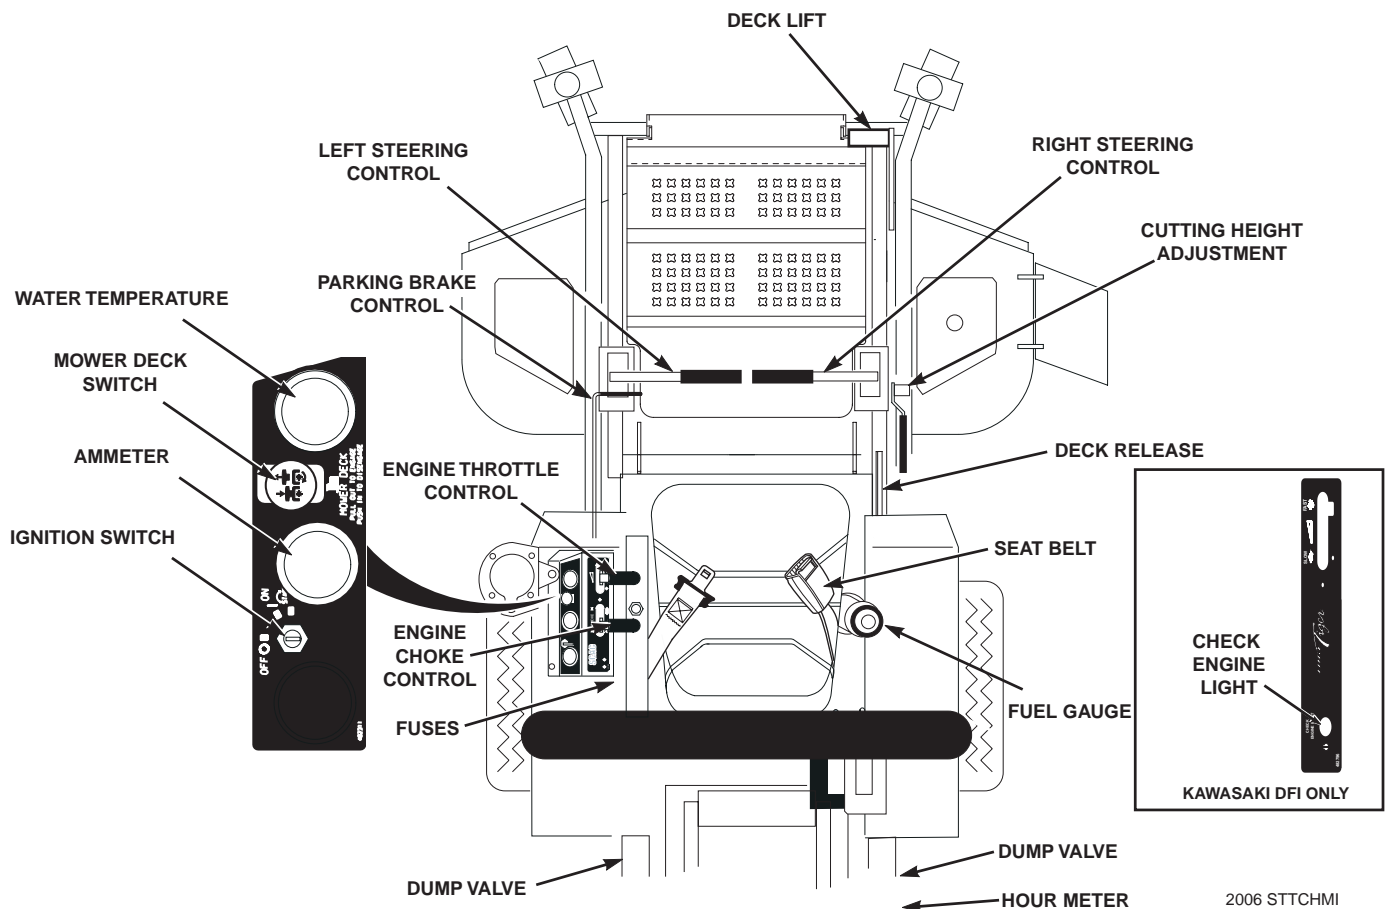

Figure 4-1. Controls and Instruments
1. **Ignition Switch (Figure 4-1).** The ignition switch is used to start the engine and has three positions; OFF, ON, and START.
2. **Mower Deck Switch (Figure 4-1).** Used to engage and disengage the mower drive system. Pulling up on the switch will engage the deck drive. Pushing down on the switch will disengage the deck drive.
3. **Engine Choke Control (Figure 4-1).** Used to start a cold engine. Not used on the 29DFI.
4. **Engine Throttle Control (Figure 4-1).** Used to control the engine speed. Pushing the lever forward increases engine speed. Pulling the lever back decreases engine speed. Full back position is the IDLE position. Full forward is the cutting position.
5. **Ammeter (Figure 4-1).** Indicates the condition of the charging system. When the engine is running the needle should be toward the positive end of the meter. If the needle is toward the negative end of the meter, this indicates a discharge condition and the machine should be taken in for service.
6. **Hourmeter (Figure 4-1).** Indicates the number of hours the engine has been operated. It only operates when the engine is running. Has preset maintenance reminders for engine and hydraulic system oil changes. Will start flashing scheduled maintenance 2 hours before preset time and continue flashing until 2 hours after. Automatically resets.
7. **Fuse Holders (Figure 4-1).** Two 20-amp fuses protect the mower's electrical system. To replace fuses, pull fuse out of the socket and install a new fuse.
8. **Left Steering Control (Figure 4-1).** Used to control the mower's left wheel when traveling forward or reverse.
9. **Right Steering Control (Figure 4-1).** Used to control the mower's right wheel when traveling forward or reverse.
10. **Parking Brake Control (Figure 4-1).** Used to engage and disengage the parking brakes. Pull the lever back to engage the parking brakes. Push the lever forward to disengage the parking brakes.
11. **Fuel Tank Gauge (Figure 4-1).** Indicates the amount of fuel in the fuel tank.
14. **Cutting Height Adjustment (Figure 4-1).** Used to set the cutter deck at the desired cutting height.
15. **Deck Release Lever (Figure 4-1).** Used to lock the cutter deck in the transport position. Push the foot pedal forward and pull back on the release lever to release the cutter deck for normal mowing.
16. **Temperature Gauge (Figure 4-1).** Indicates the operating temperature of the engine. Used on mowers with the liquid-cooled engine only.
17. **Check Engine Light (Figure 4-1).** Indicates the operation of the engine sensors on the Kawasaki Digital Fuel Injection (DFI). Light will flash once at initial start up. If a problem occurs with a sensor on the engine, the light will flash a code. See your authorized Scag Dealer for diagnosis and repair.
18. **Seat Belt (Figure 4-1).** Used to secure the operator. Seat belt must be worn at all times when the ROPS is in the upright and locked position.
19. **Seat Hold Down Release Latch (Figure 4-1).** Located behind the seat. Used to secure the seat in the operator's position. Release the latch to gain access under the seat.
13. **Deck Lift Foot Lever (Figure 4-1).** Used to raise and lower the cutter deck. Push full forward to lock in the transport position.